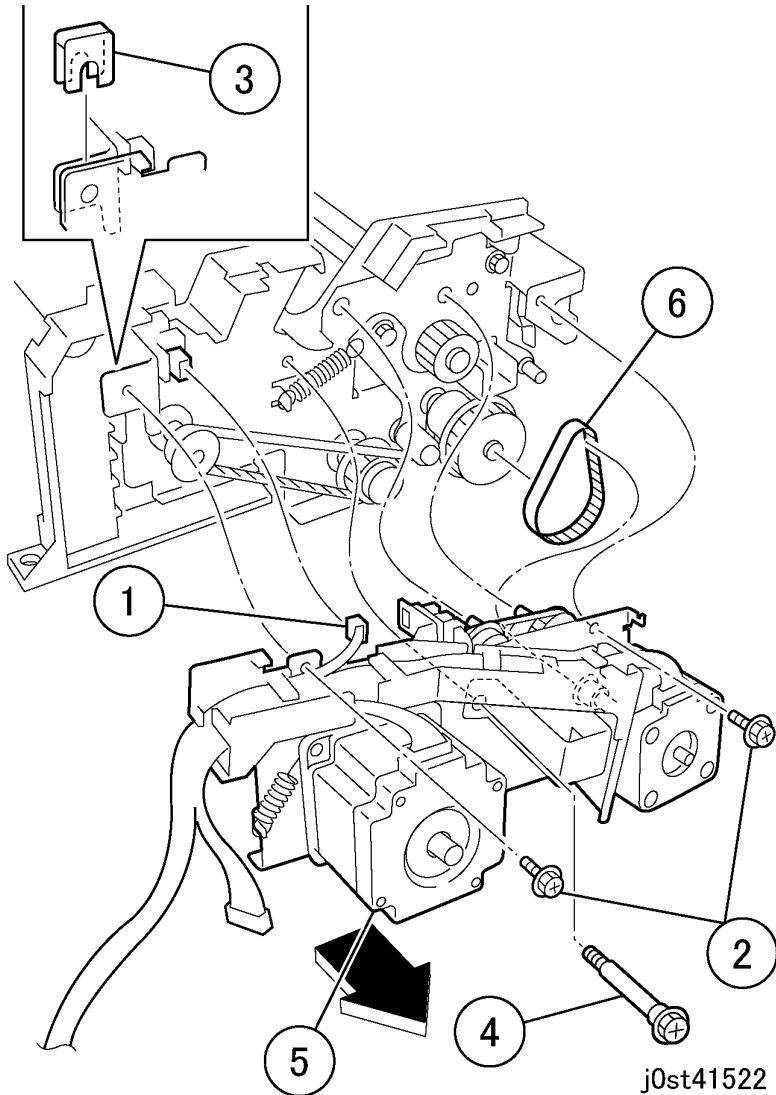

Figure 2 Moving the motor unit (j0st41522)
7. Move the motor unit. (Figure 2)